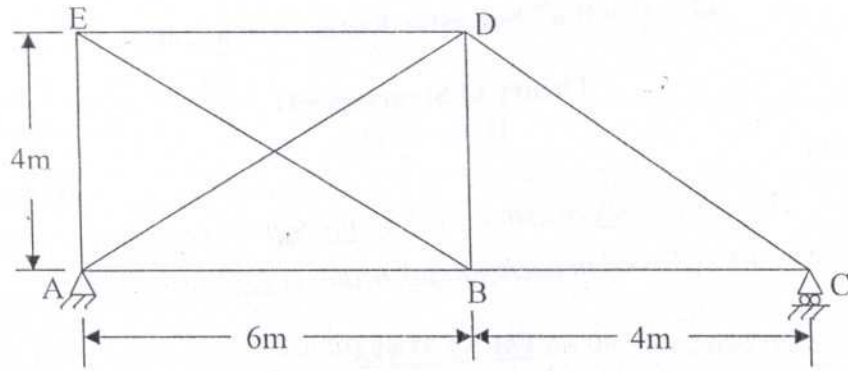

Fig. Q. 1
Q.1) In the plane braced frame shown in Fig. Q.1 the members have the same cross-sectional area of 10 cm^2 and are made of the same material. The member AD in the frame was initially short by 0.25 cm. Determine the force in each member.